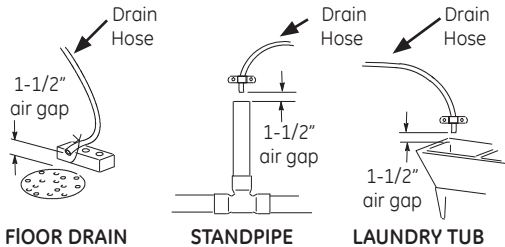

Figure 1
A drain is needed for regeneration water (See Figure 1). A floor drain, close to the water softener, is preferred. A laundry tub, standpipe, etc. are other drain options. Secure valve drain hose in place. Leave an air gap of 1-1/2" between the end of the hose and the drain. This gap is needed to prevent back flow of sewer water into the drain hose into the drain. Do not put the end of the drain hose into the drain.
2. Route the drain hose or copper tubing to the floor drain or other suitable drain point. Secure drain hose. This will prevent "whipping" during regenerations. See "Air Gap Requirements" section (Figure 1).